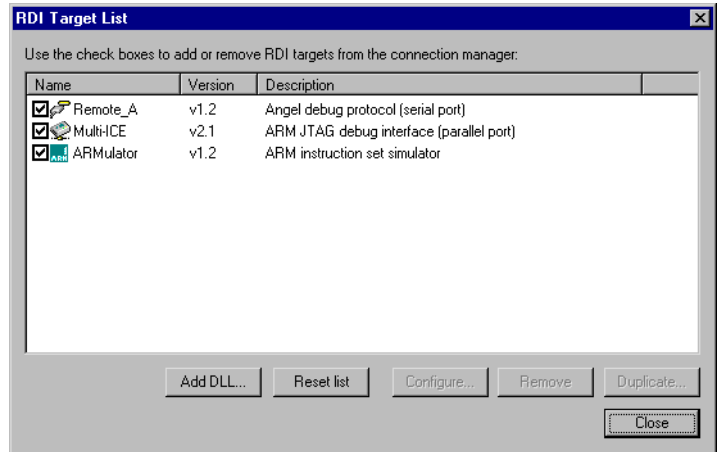

Figure 4-4 RDI Target List dialog box
4. Select the option **Add/Remove/Edit Devices...** to display the RDI Target List configuration dialog box shown in Figure 4-4 on page 4-7.
- from the RDI Target List dialog box, shown in Figure 4-4 on page 4-7. Highlight the entry in the display list and click **Configure....**